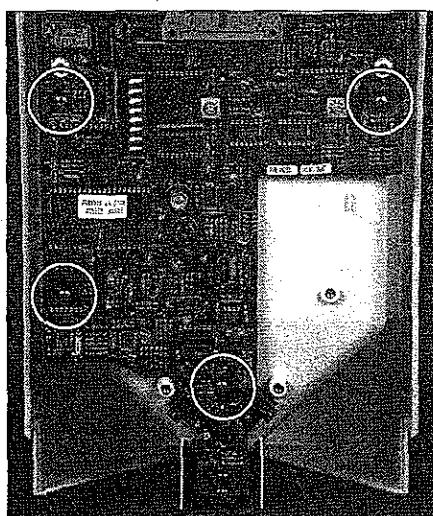

Figure 55
4. Remove the four (4) 6-32x3/16" Phillips pan-head screws which secure the main PCB to the front enclosure (see Figure 55). Lift up and remove the main PCB.
1. Install the four (4) 6-32x3/16" Phillips pan-head screws and attach the main PCB to the front enclosure (see Figure 55).